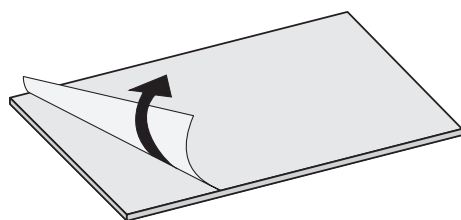

Fig. 21e
- d. A new clear inner protection plate will have a protective plastic film on it. Before inserting new protection plates, remove any protective film on the plates and insert them back into their appropriate positions (Fig. 21e, 21f & 21g).